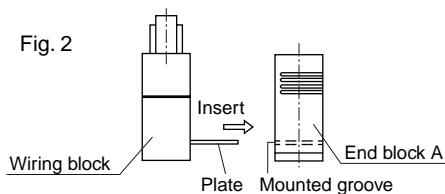

Fig. 2
- (4) Insert the base plate section of the wiring block unit into the installation groove on the end block A (Fig. 2), and fix the screw on the end block onto the rail as in step